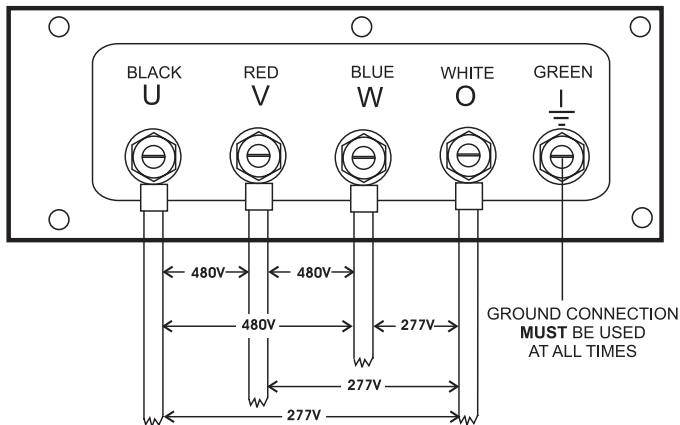

Figure 27. UVWO Terminal Lugs 480/277V Three Phase Connections
- Connect the load wires to the UVWO terminals as shown in Figure 27.